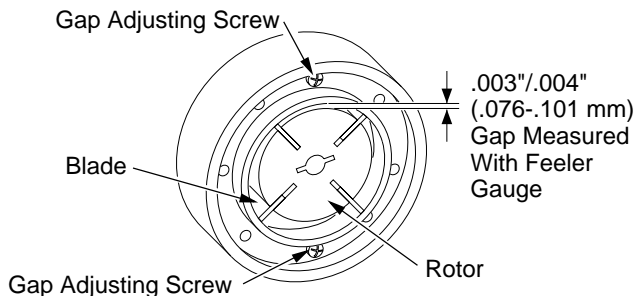

Figure 21 - Gap Adjusting Screw Locations
- Check gap on rotor. Adjust to .076/.101 mm (.003"/.004") if needed (see Figure 21).